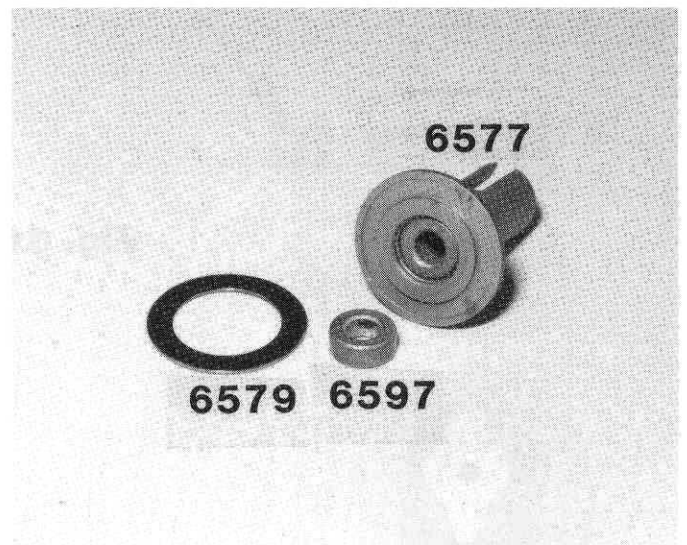

Fig. 39
□ **Fig. 39** From Bag A take the #6577 right diff outdrive hub and **make sure it's clean and free of all burrs**. From Bag B take the second and remaining #6597 bushing and install it in the right hub. The bushings must go in with a simple push of your finger. **NEVER drive them in!** Now place one of the #6579 diff drive rings onto the hub.